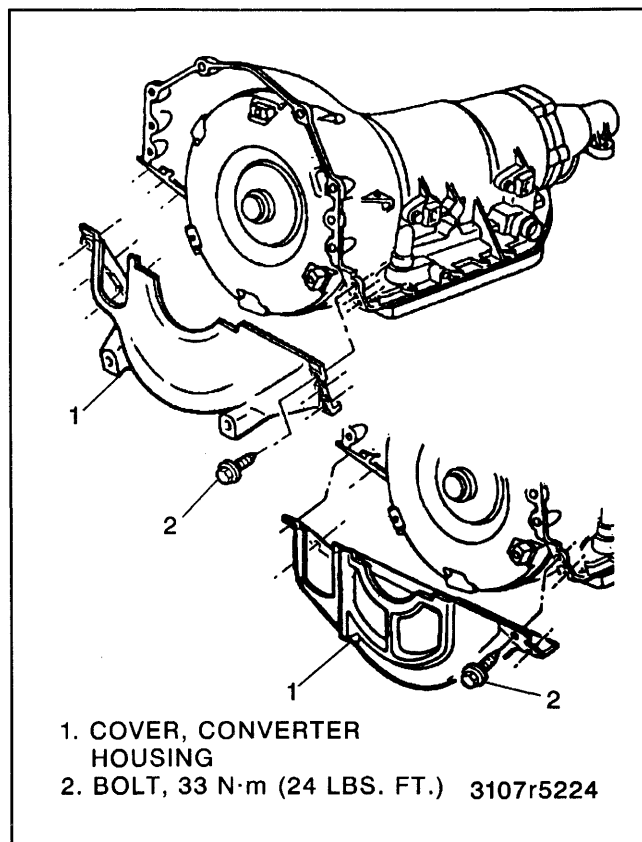

Figure 21—Converter Housing Cover
15. Converter housing cover (figure 21).
4. Converter housing cover (figure 21).